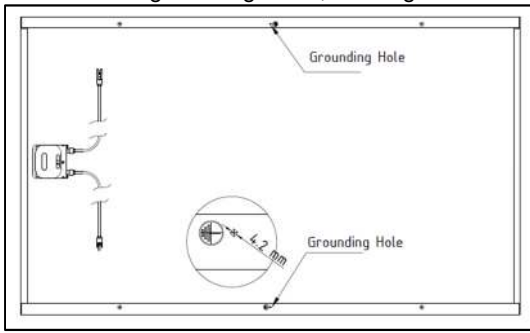
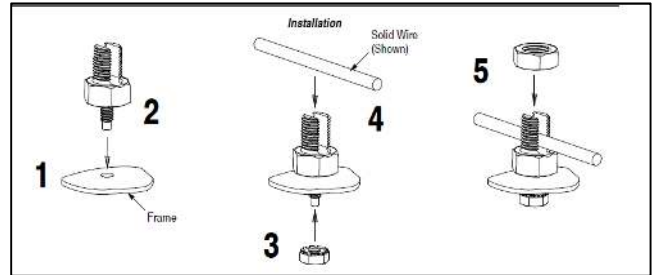
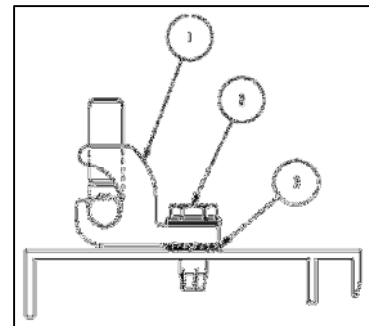
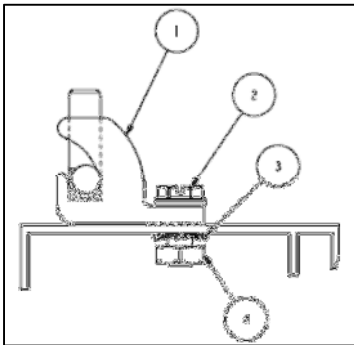

Figure 3: Grounding Hole Location
Figure 6: SolKlamp Grounding Bolt Diagram
Figure 7: Self Threaded Grounding Lug: Grounding Diagram
Figure 8: Grounding Lug with Nut: Grounding Diagram
- When using provided grounding holes on module frame locate 4.2 +/- 0.2 mm diameter grounding holes shown in Figure 3 that are marked by the grounding symbol. . The flange on which the grounding hole is located
Attach the grounding conductor to the module frame through at least one of the two grounding holes, See Figure 3.
The grounding clip manufactured by Tyco Electronics Corp. (Part number: 1954381-1) is UL listed and designed for module grounding applications using a solid 10 to 12 AWG un-insulated ground wire. It is attached to grounding hole on module frame, Figure 3, by an integrated, 10-32 in. self-tapping screw. Place the grounding clip onto the frame, making sure that the screw straddles the grounding hole. Using a No. 2 cross-recessed screwdriver, thread the screw into the hole until the head is flush with the base and the base is flush with the frame, then tighten the screw with another 1/4 to 1/2 turn. Recommended torque is between 20 in-lb (2.3 N-m) for screw. Insert the wire into the wire slot. Press down on both ends of the wire (the wire slot will cause the wire to form a slight curve). Manually, or using channel lock pliers, push the slider over the base until it covers the base. This will terminate the wire.
grounding applications using a solid 6 to 12 AWG un-insulated ground wire. It is attached to grounding hole on module frame, Figure 3, by an integrated, 8-32 in threaded post and nut. Locate the grounding hole on the underside of the module frame (1). Insert the threaded post end of the wire bolt into the hole (2). Finger-tighten the hex washer nut onto the threaded post (3). Position the grounding wire into the wire slot (4). Finger-tighten the nut onto the wire slot end until wire is compressed (5). Using a 9/16" open end wrench to hold the hex body of the wire bolt, and using a 9/16" socket wrench, tighten the mounting hex washer nut (3) to a torque of 25 in-lb (2.82 N-m). While holding the hex body, use an 11-32" socket wrench to tighten the wire binding hex nut (5) to a torque of 45 in-lb (5.08 N-m). See Figure 6.
The grounding bolt manufactured by IlSCO (Part number: GBL-4DBT) and bolt manufactured by Burndy (Part number: CL501TN) are UL listed and designed for module grounding applications using a solid 4 to 14 AWG un-insulated ground wire. Locate module grounding hole, Figure 3. Assemble a # 10 stainless steel star washer (1) and #10-32 self-tapping screw (2) through grounding lug (1) and into the module grounding hole until washer and lug are flush with frame as shown in Figure 7. Using a 5/16 in. open ended wrench to tighten the screw (2) another 1/4 to 1/2 turn with recommended torque between 20 and 25 in-lb (2.3 and 2.8 N-m). Insert grounding wire into conductor slot of lug and tighten threaded set screw using a 5.5 x 0.8 mm (3/16 x 0.025 in.) flat headed driver to the torque specified in Table 1 to compress the conductor.
The grounding bolt manufactured by Burndy (Part number: CL501TN) is UL listed and designed for module grounding applications using a solid 4 to 14 AWG un-insulated ground wire. Locate module grounding hole, Figure 3. Using a 5/16 open ended wrench, thread #10-32 self-threading screw through the grounding hole to open up the hole size and remove. Assemble a #10-32 bolt (2) through the grounding lug (1) and into the module grounding hole. Install a # 10 stainless steel star washer (3) and hex nut (4) around the frame until washer and lug are flush with frame, as shown in figure 8. Using two 5/16 in. open ended wrenches to tighten the screw (2) and bolt (4) another ¼ to ½ turn with recommended torque between 20 and 25 in-lb (2.3 and 2.8 N-m). Insert grounding wire into conductor slot of lug and tighten threaded set screw using a 5.5 x 0.8 mm (3/16 x 0.025 in.) flat headed driver to the torque specified in Table 1 to compress the conductor.